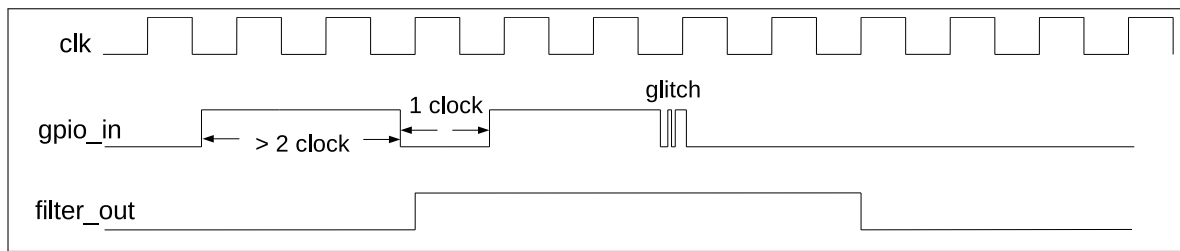

Figure 7-4. GPIO Filter Timing of GPIO Input Signals
2. Optionally enable the GPIO Filter for pin input signals by setting `IO_MUX_GPIOx_FILTER_EN`. Only the signals with a valid width of more than two clock cycles can be sampled, see Figure 7-4.